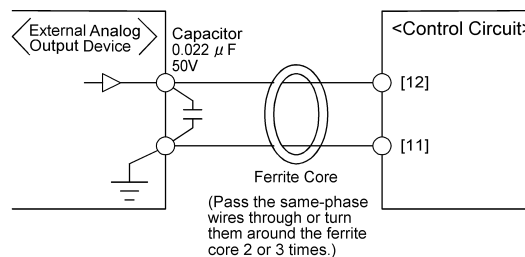

Figure 2.12 Example of Electric Noise Reduction
- When the inverter is connected to an external device outputting the analog signal, the external device may malfunction due to electric noise generated by the inverter. If this happens, according to the circumstances, connect a ferrite core (a toroidal core or equivalent) to the device outputting the analog signal or connect a capacitor having the good cut-off characteristics for high frequency between control signal wires as shown in Figure 2.12.